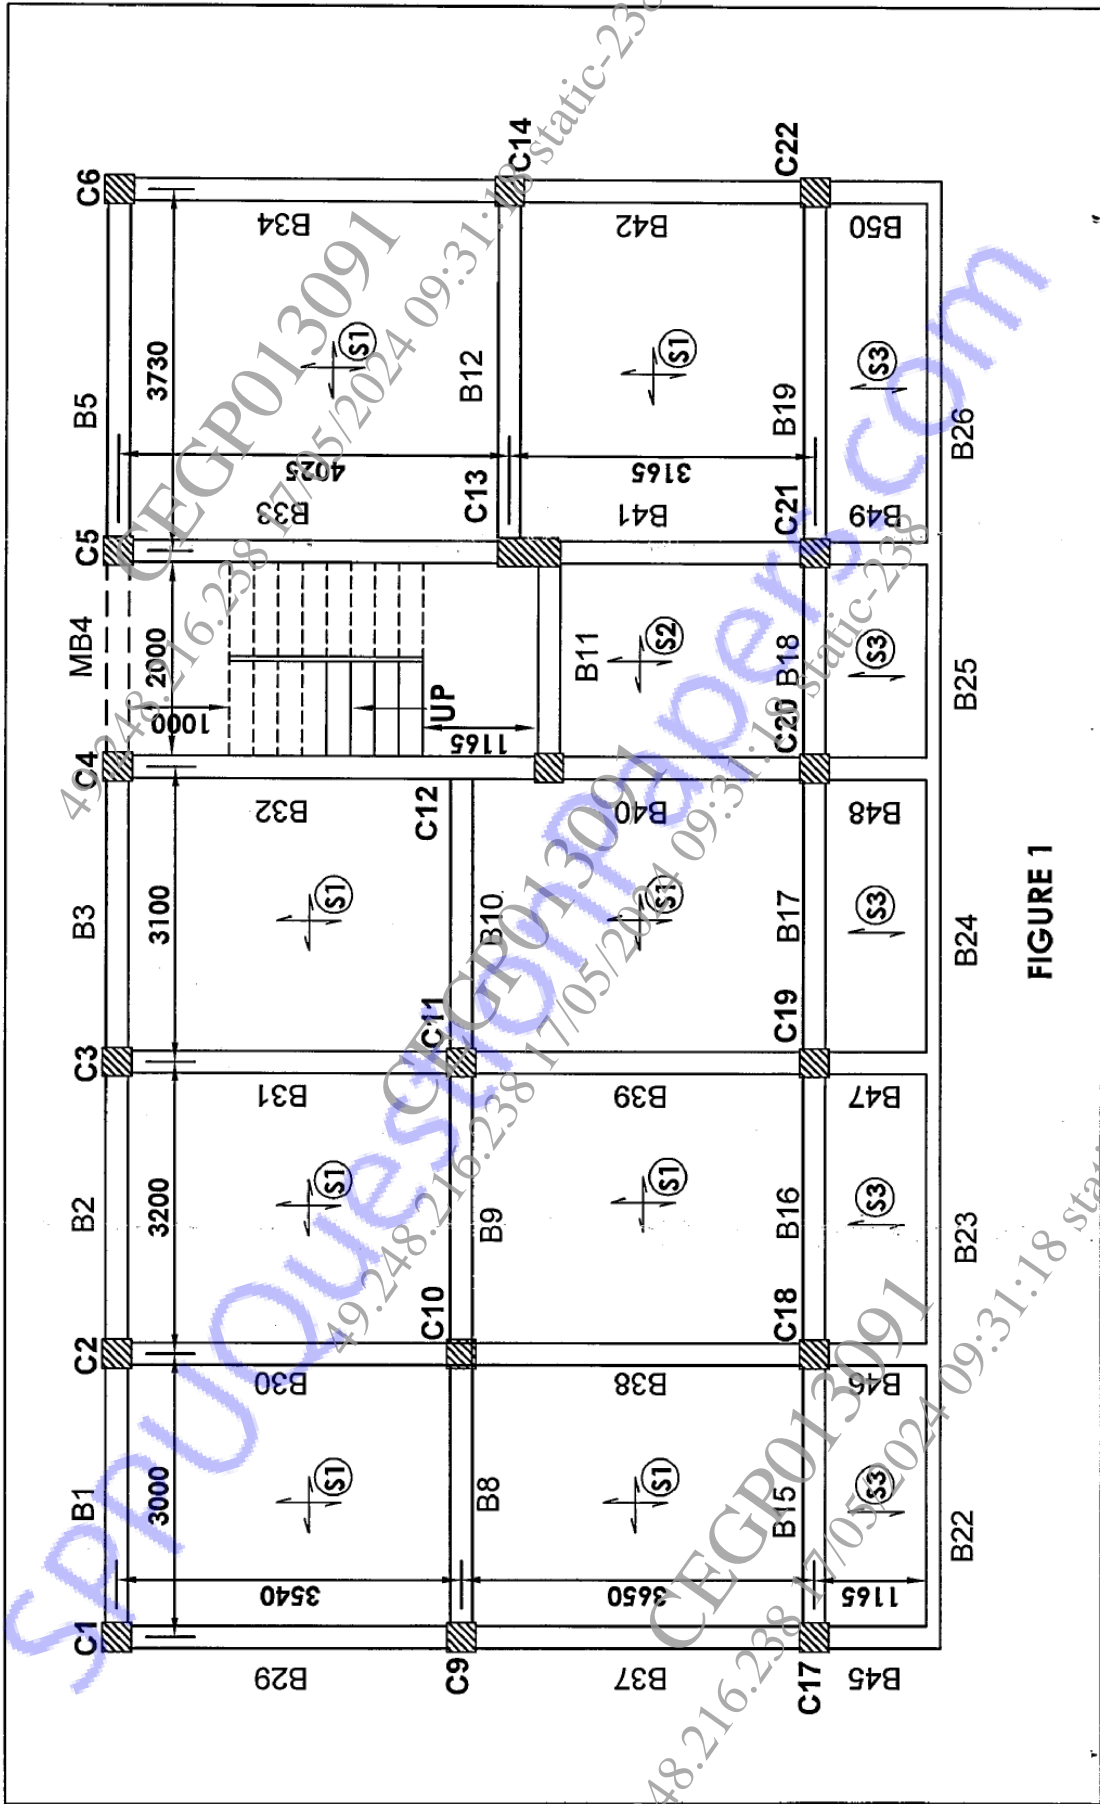

FIGURE 1
**Q1) a)** Design any intermediate flight of a dog legged staircase of a residential building as shown in Figure 1 with the following data: **[13]**
**Q2)** Design a simply supported reinforced concrete floor beam B5 as shown in Figure 1 with following data: **[18]**
**Q3)** Design a continuous floor beam B8-B9-B10 as shown in Figure 1 using IS code coefficients (or moment distribution). Thickness of the all floor slab is 120 mm, live load and floor finish load on all slabs are  $2.5 \text{ kN/m}^2$  and  $1.5 \text{ kN/m}^2$ , respectively. The wall on this beam is 150 mm thick and 2.7 m high. Use M 25 and Fe 415 steel. Design longitudinal reinforcement for all the spans and support for flexure. Design shear reinforcement only for beam B19. Draw neat sketch showing details of main and shear reinforcement. Use LSM. [17]
**Q5)** Design an axially loaded short column C 10 as shown in Figure 1 from terrace to footing. level (floor wise four parts of column) for a G + 2 building with following details: [18]